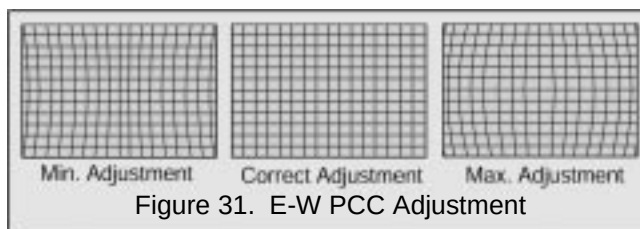

Figure 31. E-W PCC Adjustment
1. Adjust "D0C" DATA so that the 1st line and 3rd line make a good balance (See Fig. 31).